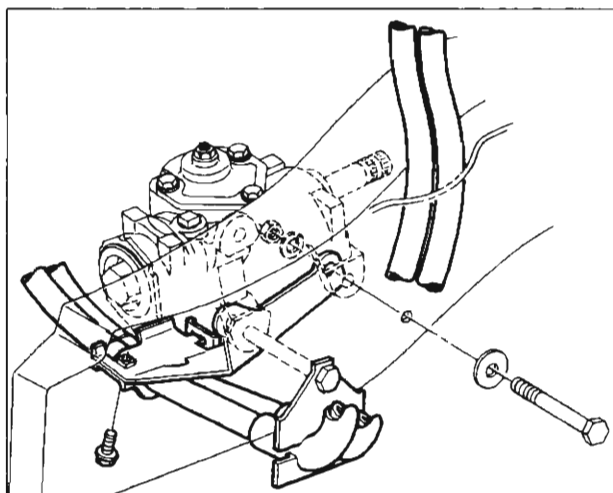

Fig. 24—Power Steering Hose Routing to Hydraulic Pump
3. On pump-to-valve hoses, align green stripe on hose with inboard edge of wide clamp as shown in Figure 24 and 25 tighten clamp.